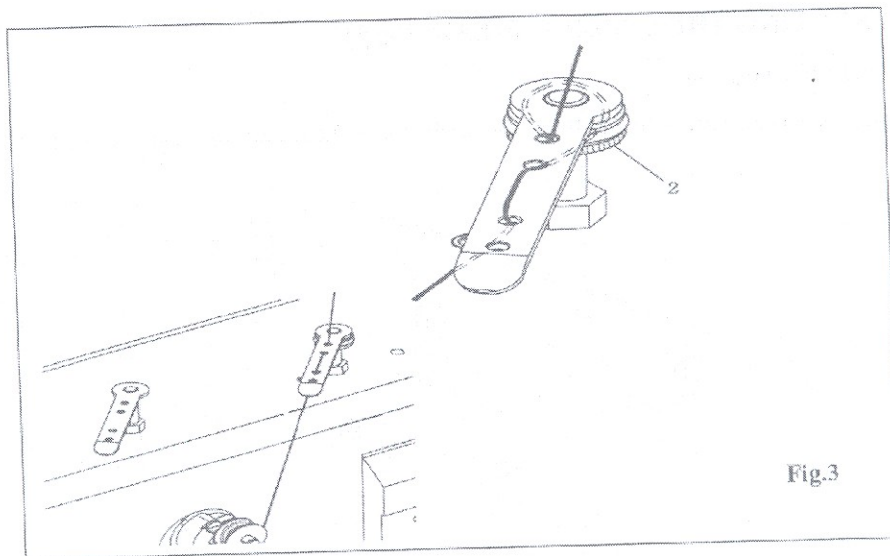

Fig.3
- ① Switch off the machine!
- ② Loosen needle-holding screw
- ③ Put the needle in as far as it will go (the long needle groove should point to the left)
- ④ Tighten needle-holding screw
2) WINDING THE LOWER THREAD, REGULATING THE TENSION OF THE THREAD (Fig.3)
- ① Put an empty bobbin onto the bobbin shaft and thread the thread according to Fig 3
- ② Push the bobbin catch in the direction of the arrow
- ③ The bobbin is filled during the progress of the sewing.
- ④ The bobbinet stops automatically when the bobbin is full.
- ⑤ The tension of the thread on the bobbin can be adjusted with knurl-screw 2.